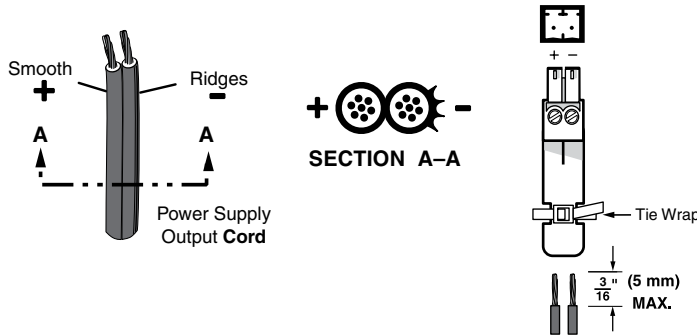

Figure 6. Power Connector Wiring
Figure 6 shows how to wire the connector. Use the supplied tie-wrap to strap the power cord to the extended tail of the connector.
- Power supply voltage polarity is critical. Incorrect voltage polarity can damage the power supply and the unit. The ridges on the side of the cord (see **figure 6** on the previous page) identify the power cord negative lead.